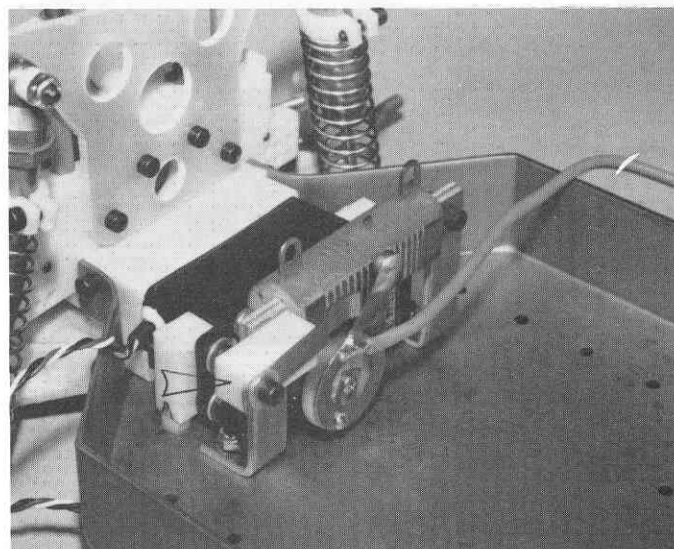

Fig. 171
□ **Fig. 171** Follow steps 152 and 153 to install the throttle resistor, but make the following exceptions: the resistor brackets should be turned 180 degrees, so that they look like fig 171. Mount the resistor BEHIND the brackets instead of in front; and use the thin bypass mount (with the rounded edges). When assembled check for proper wiper pressure as in step 155 and complete with wiring in step 154.